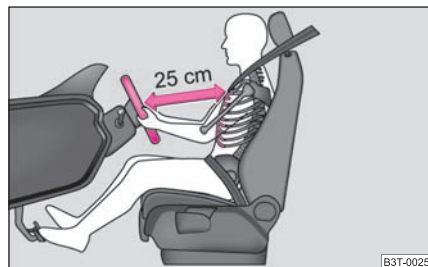

Fig. 145 The correct distance of the driver from the steering wheel ▶
- Adjust the steering wheel so that the distance between the steering wheel and your chest is at least 25 cm ⇒ page 150, fig. 145.
- **The driver must maintain a distance of at least 25 cm to the steering wheel ⇒ page 150, fig. 145. Not maintaining this minimum distance will mean that the airbag system will not be able to properly protect you - hazard!**